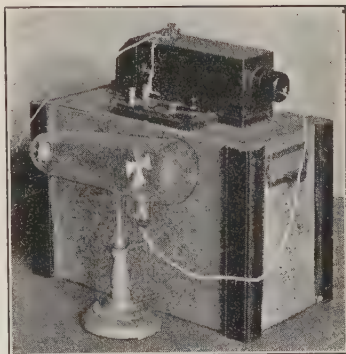

FIGURE 683. — CROOKES TUBE.
**472. X-Rays.** — As more and more air is pumped out of the tube, after a time the glow diminishes. When only about one millionth of the gas remains, the glow disappears entirely, because there are relatively so few atoms left that they are rarely struck by the electrons. Such tubes are called *Crookes tubes* (Figure 683), from their discoverer, Sir William Crookes. When the electrons in a Crookes tube strike the glass or an obstacle placed in their path, electromagnetic waves, which may be only  $\frac{1}{30,000}$  as long as light waves, result from the violent impact of the electrons. These exceedingly short waves are the X-rays discovered by Roentgen. Let us discuss their properties first and then X-ray tubes and their uses.